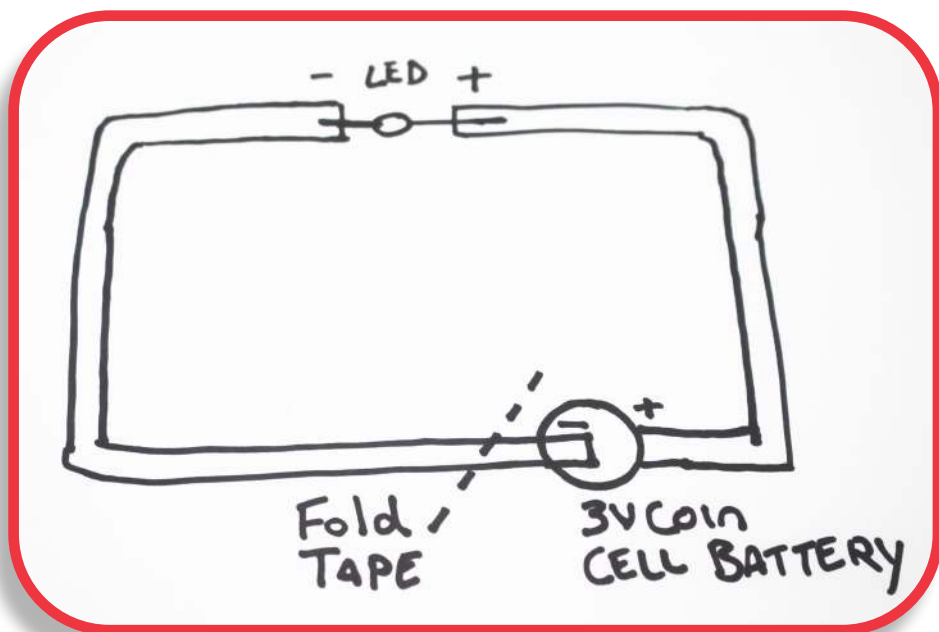

Fig 3. Circuit outline for paper circuit
- A. Take a thin strip of tinfoil, wire or copper tape and replicate the circuit outline in Fig. 3. The strip of tinfoil, wire or copper tape can never cross over itself, and should not be broken into different pieces, other than breaks for the LEDs and battery.